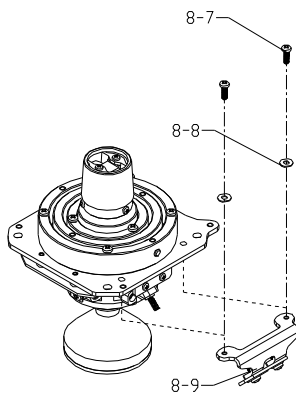

Figure 5
1. Using a Phillips screwdriver to screw off the 2 crosshead plate screws M2.5×8(8-7#), and take off the 3# alarm circuit board parts (8-9#) shown in figure 5.